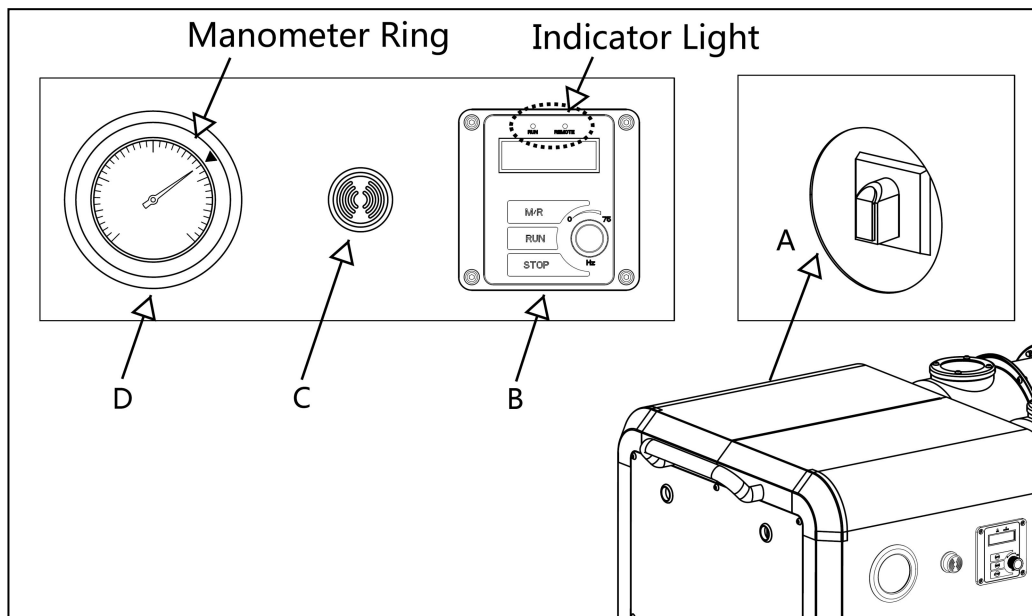

Fig.13
5.1 The operating and instructions of electrical components (Fig.13)
5.2 The operating of manometer (Fig.13)